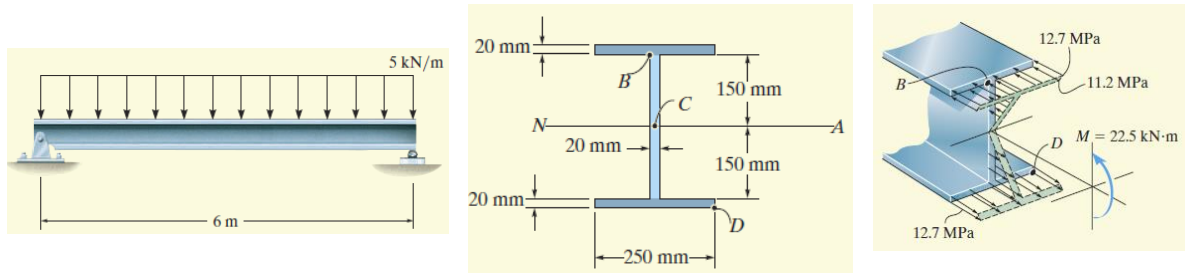

Fig. 1
1. The simply supported beam has the cross-sectional area shown in Fig. 1. Determine the absolute maximum bending stress in the beam and draw the stress distribution over the cross section at this location.